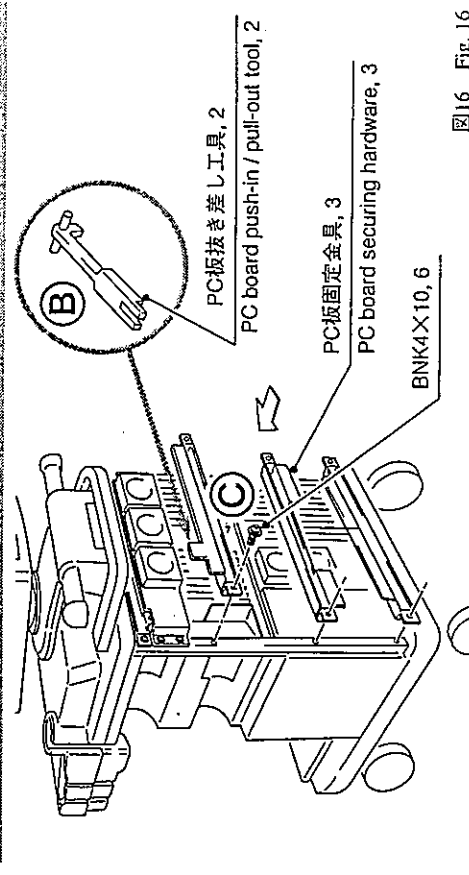

図16 Fig. 16
- (5) PC板抜き差し工具2個を、PC板固定金具の図の位置裏側にクランプする。(図16 ㊼)
- (6) PC板固定金具3本を、ねじ各2本で取り付ける。(図16 ㊽)
- (5) Clamp 2 pieces of PC board push-in / pull-out tool on the back of PC board securing hardware at locations illustrated. (㊼ in Fig. 16)
- (6) Use 2 screws to install each of 3 PC board securing hardware pieces. (㊽ in Fig. 16)